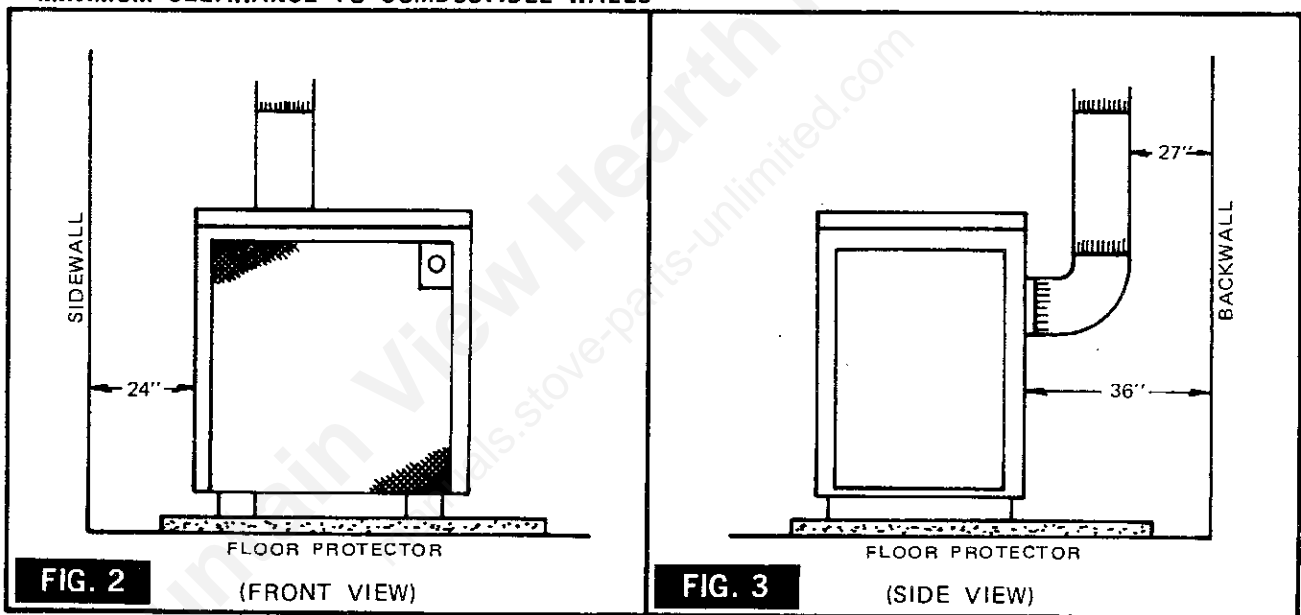

FIG. 2
3. Check Figures 2, 3 and 4. Be sure you have the clearances shown from the heater and the connector pipe to combustible surfaces. If you have a solid brick or stone wall behind your heater, you can place the heater as close as you wish to the wall. If the wall is only faced with brick or stone, treat it as a combustible wall.